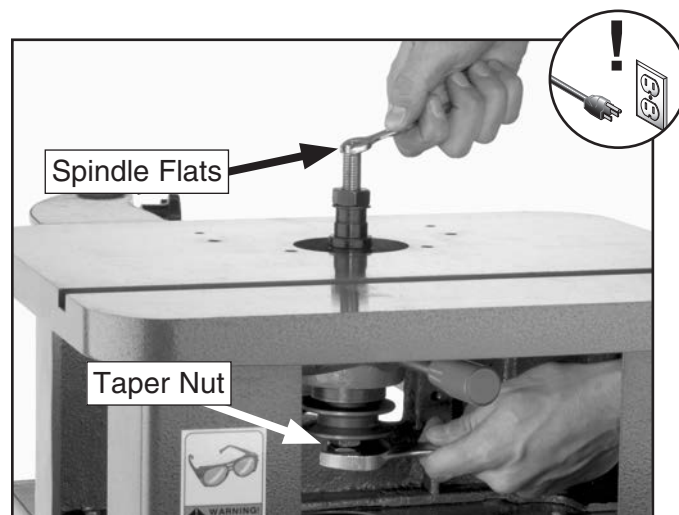

Figure 53. Tightening taper nut to install shaper cutter spindle (pulley guard removed for clarity).
3. Remove table and table spacers from shaper by removing (7) bolts and lock washers that secure table in place.
4. Replace table with (2) M12-1.75 x 20 hex bolts, (2) 1/2" flat washers, (5) M12-1.75 x 25 hex bolts, and (2) 1/2" lock washers (original mounting bolts you removed when you converted shaper for use as router table).
7. Tighten taper nut by holding another wrench on spindle flats, as shown in **Figure 53**.